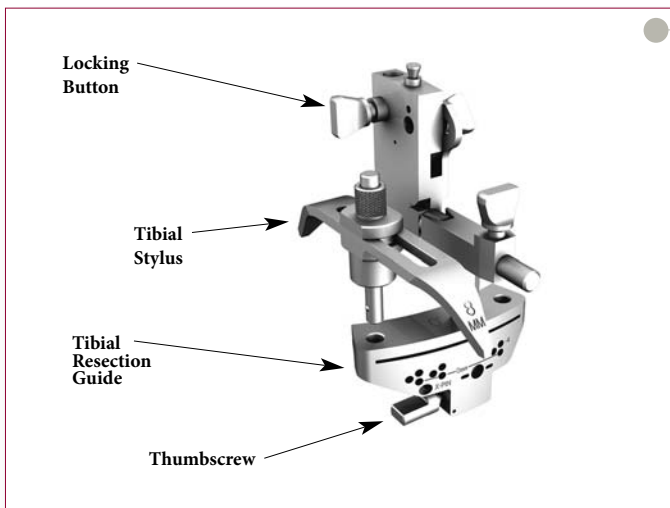

Figure 55
- ▶ Assemble the Tibial Stylus onto the Tibial Resection Guide by depressing the button on the top of the Tibial Stylus, inserting the stylus into either the medial or lateral hole on the top of the Tibial Resection Guide, and releasing the button to lock the stylus into place (Figure 55).